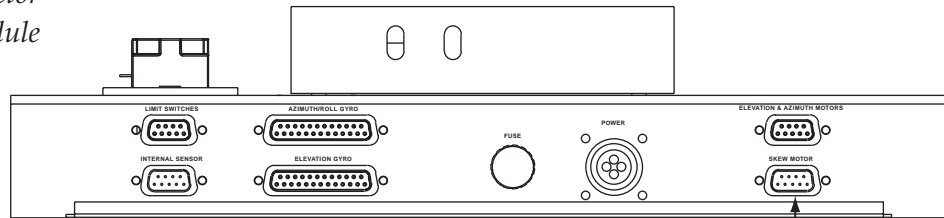

Figure 5-41
4. Remove the four #8-32 screws securing the LNB/feed tube assembly to the reflector base (see Figure 5-41). Withdraw the LNB/feed tube assembly through the center hole in the reflector.